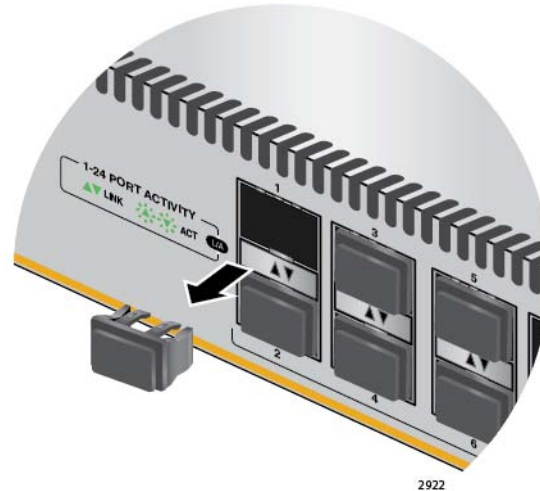

Figure 19. Removing the Dust Plug from an SFP Slot
1. Remove the dust plug from a transceiver slot on the switch. Refer to Figure 19.